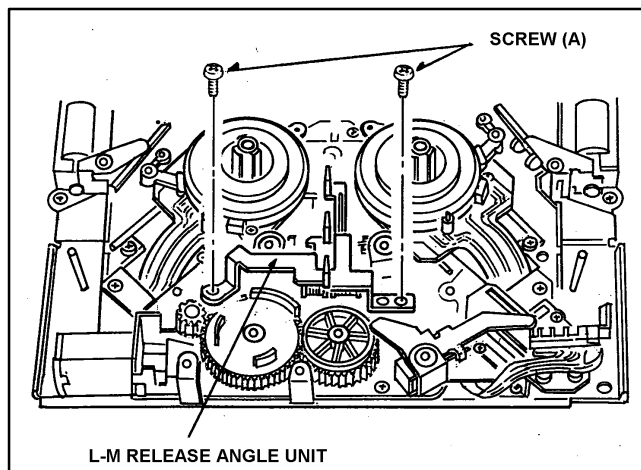

Figure 1-28
1. Unscrew the 2 screws (A) and remove the L-M Release Angle Unit as shown in Figure 1-28.